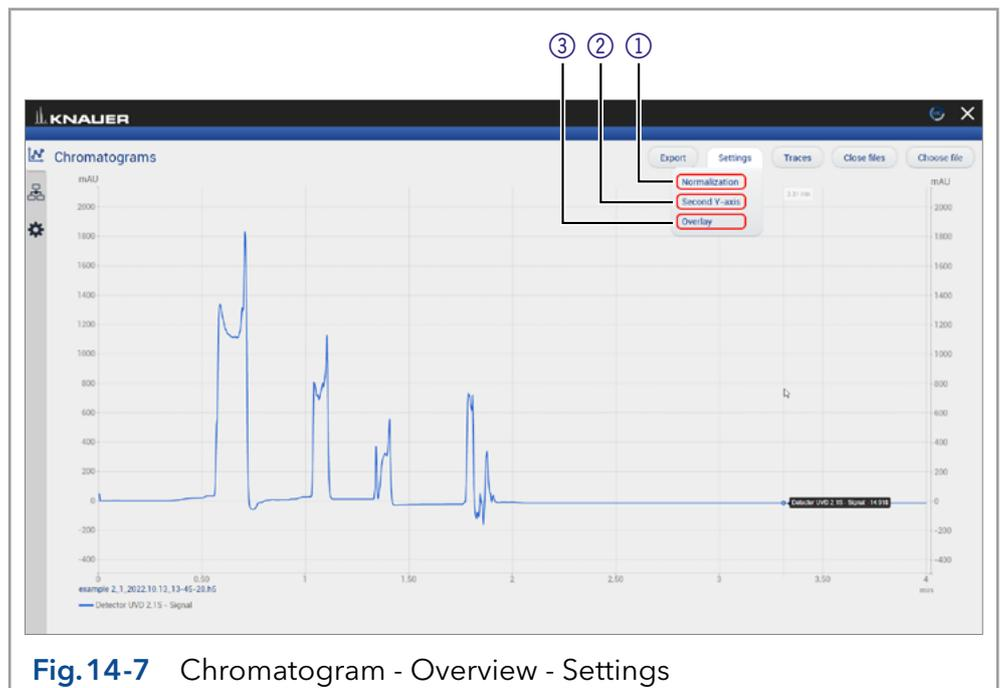

Fig.14-7 Chromatogram - Overview - Settings
| ④ Settings | Choose between Normalization, Second y-axis and Overlay (refer to Fig. 14-7) |